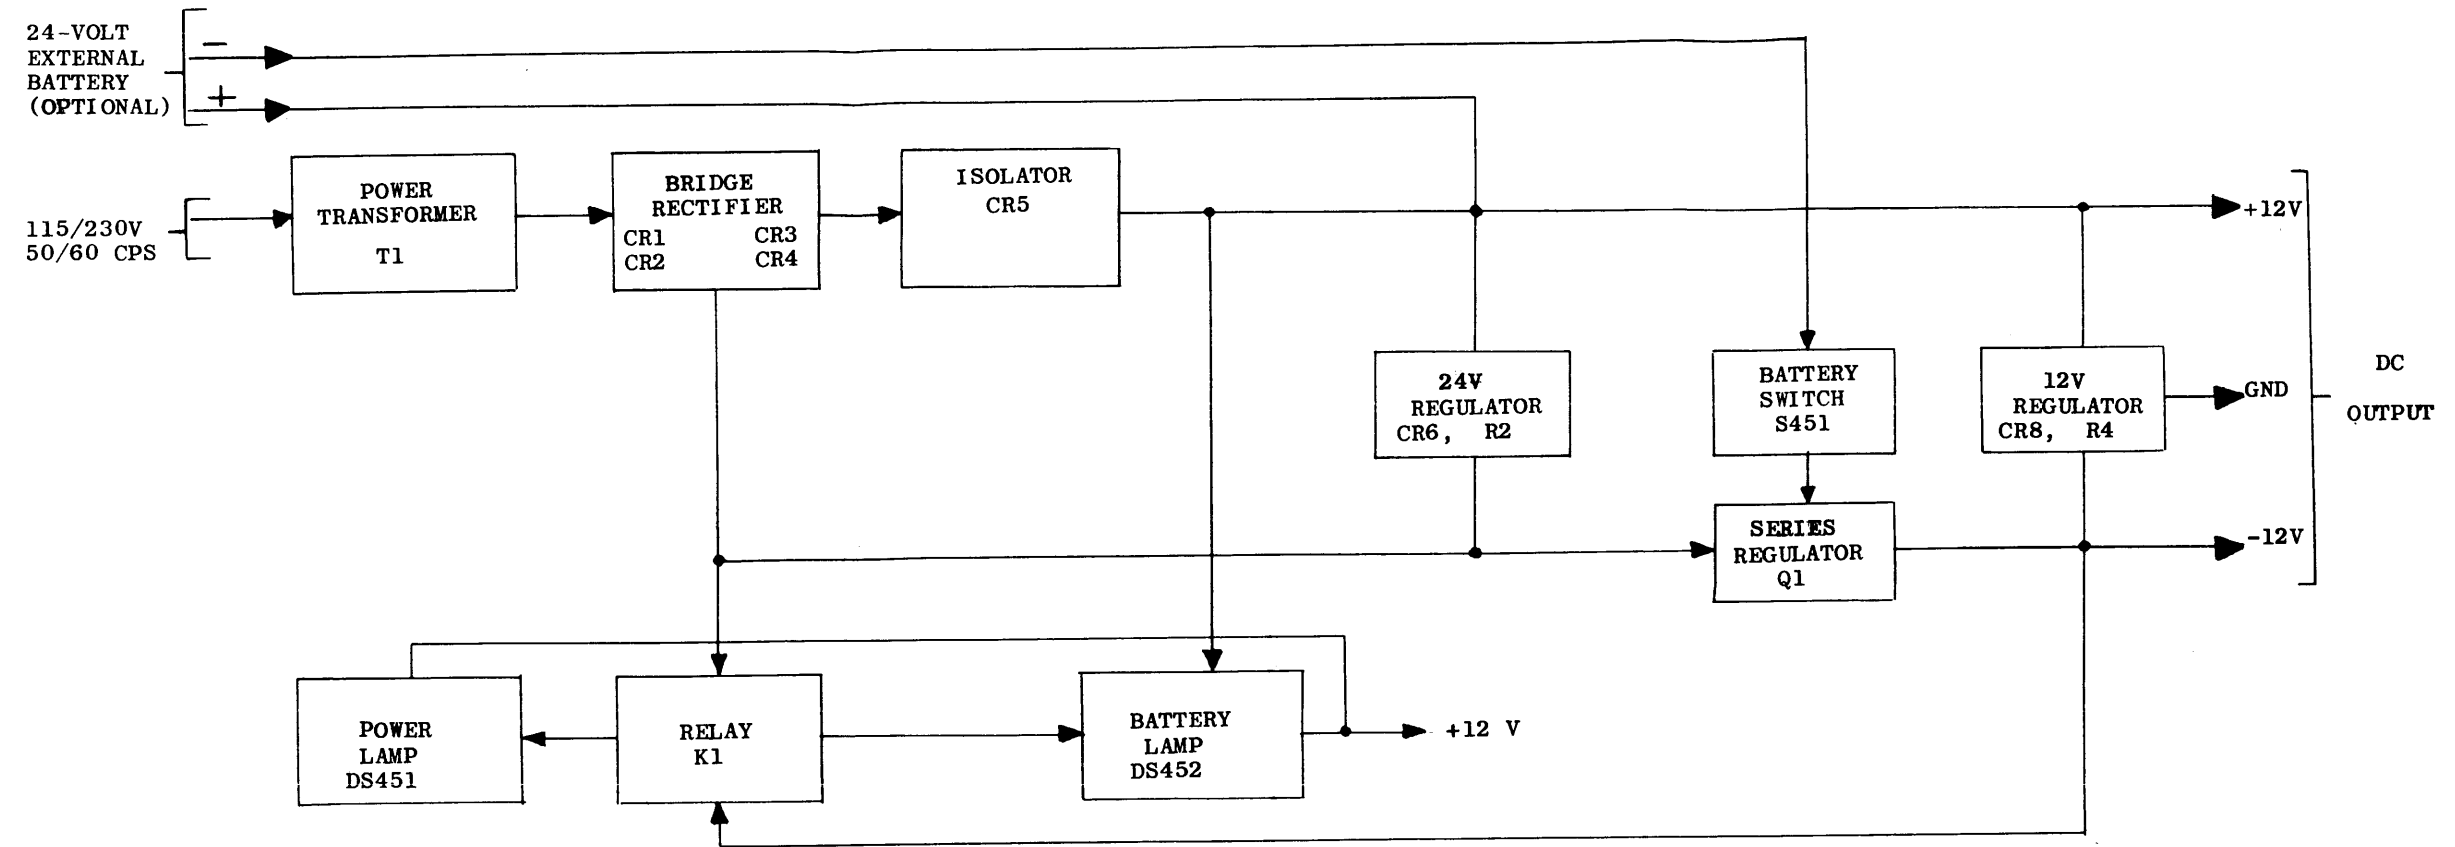

Figure 4-13. Power Supply, Functional Block Diagram
j. POWER SUPPLY ASSEMBLY. - Figure 4-13 is a functional block diagram of the Power Supply Assembly. The incoming a-c line voltage is stepped down to 28 volts ac by power transformer T1 and rectified by bridge rectifiers CR1, CR2, CR3, and CR4. The filtered rectified dc output voltage is passed through isolator diode CR5 to the regulator circuit. Zener diode CR6 and resistor R2 regulate the rectifier output voltage at 24 volts DC. Zener diode CR8 and resistor R4 regulate the positive supply output voltage to 12 volts.